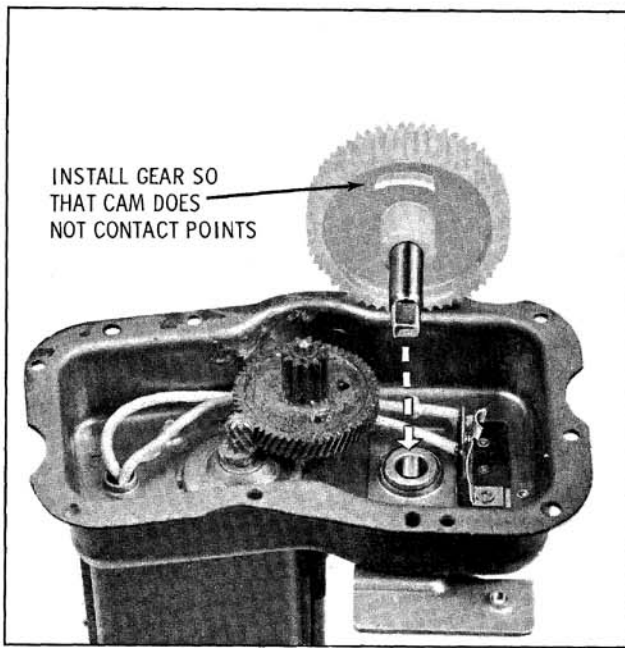

Fig. 13-165 Gear Installation
1. If park switch and terminal board assembly were removed, reinstall replacement assembly using the attaching screws and nuts included in the service package. Resolder leads to terminals. (Fig. 13-165)
3. Install output gear and shaft assembly with cam in position shown in Fig. 13-165.